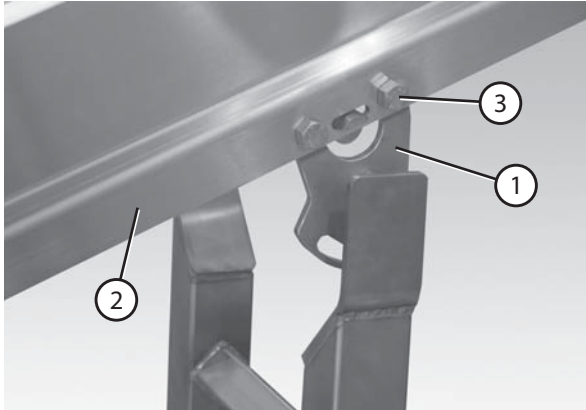

Figure 7
- Attach the bracket (Figure 7, item 1) to the conveyor (Figure 7, item 2) using four M10-1.5 x 12 mm hex head cap screws (Figure 7, item 3).
- Tighten the four M10 screws (Figure 7, item 3) to 80 in•lb (9 N•m).
- Adjust the bracket angle on the slotted brackets (Figure 7, item 1) to match the conveyor angle and tighten the screws to 50 ft•lb (72 N•m).